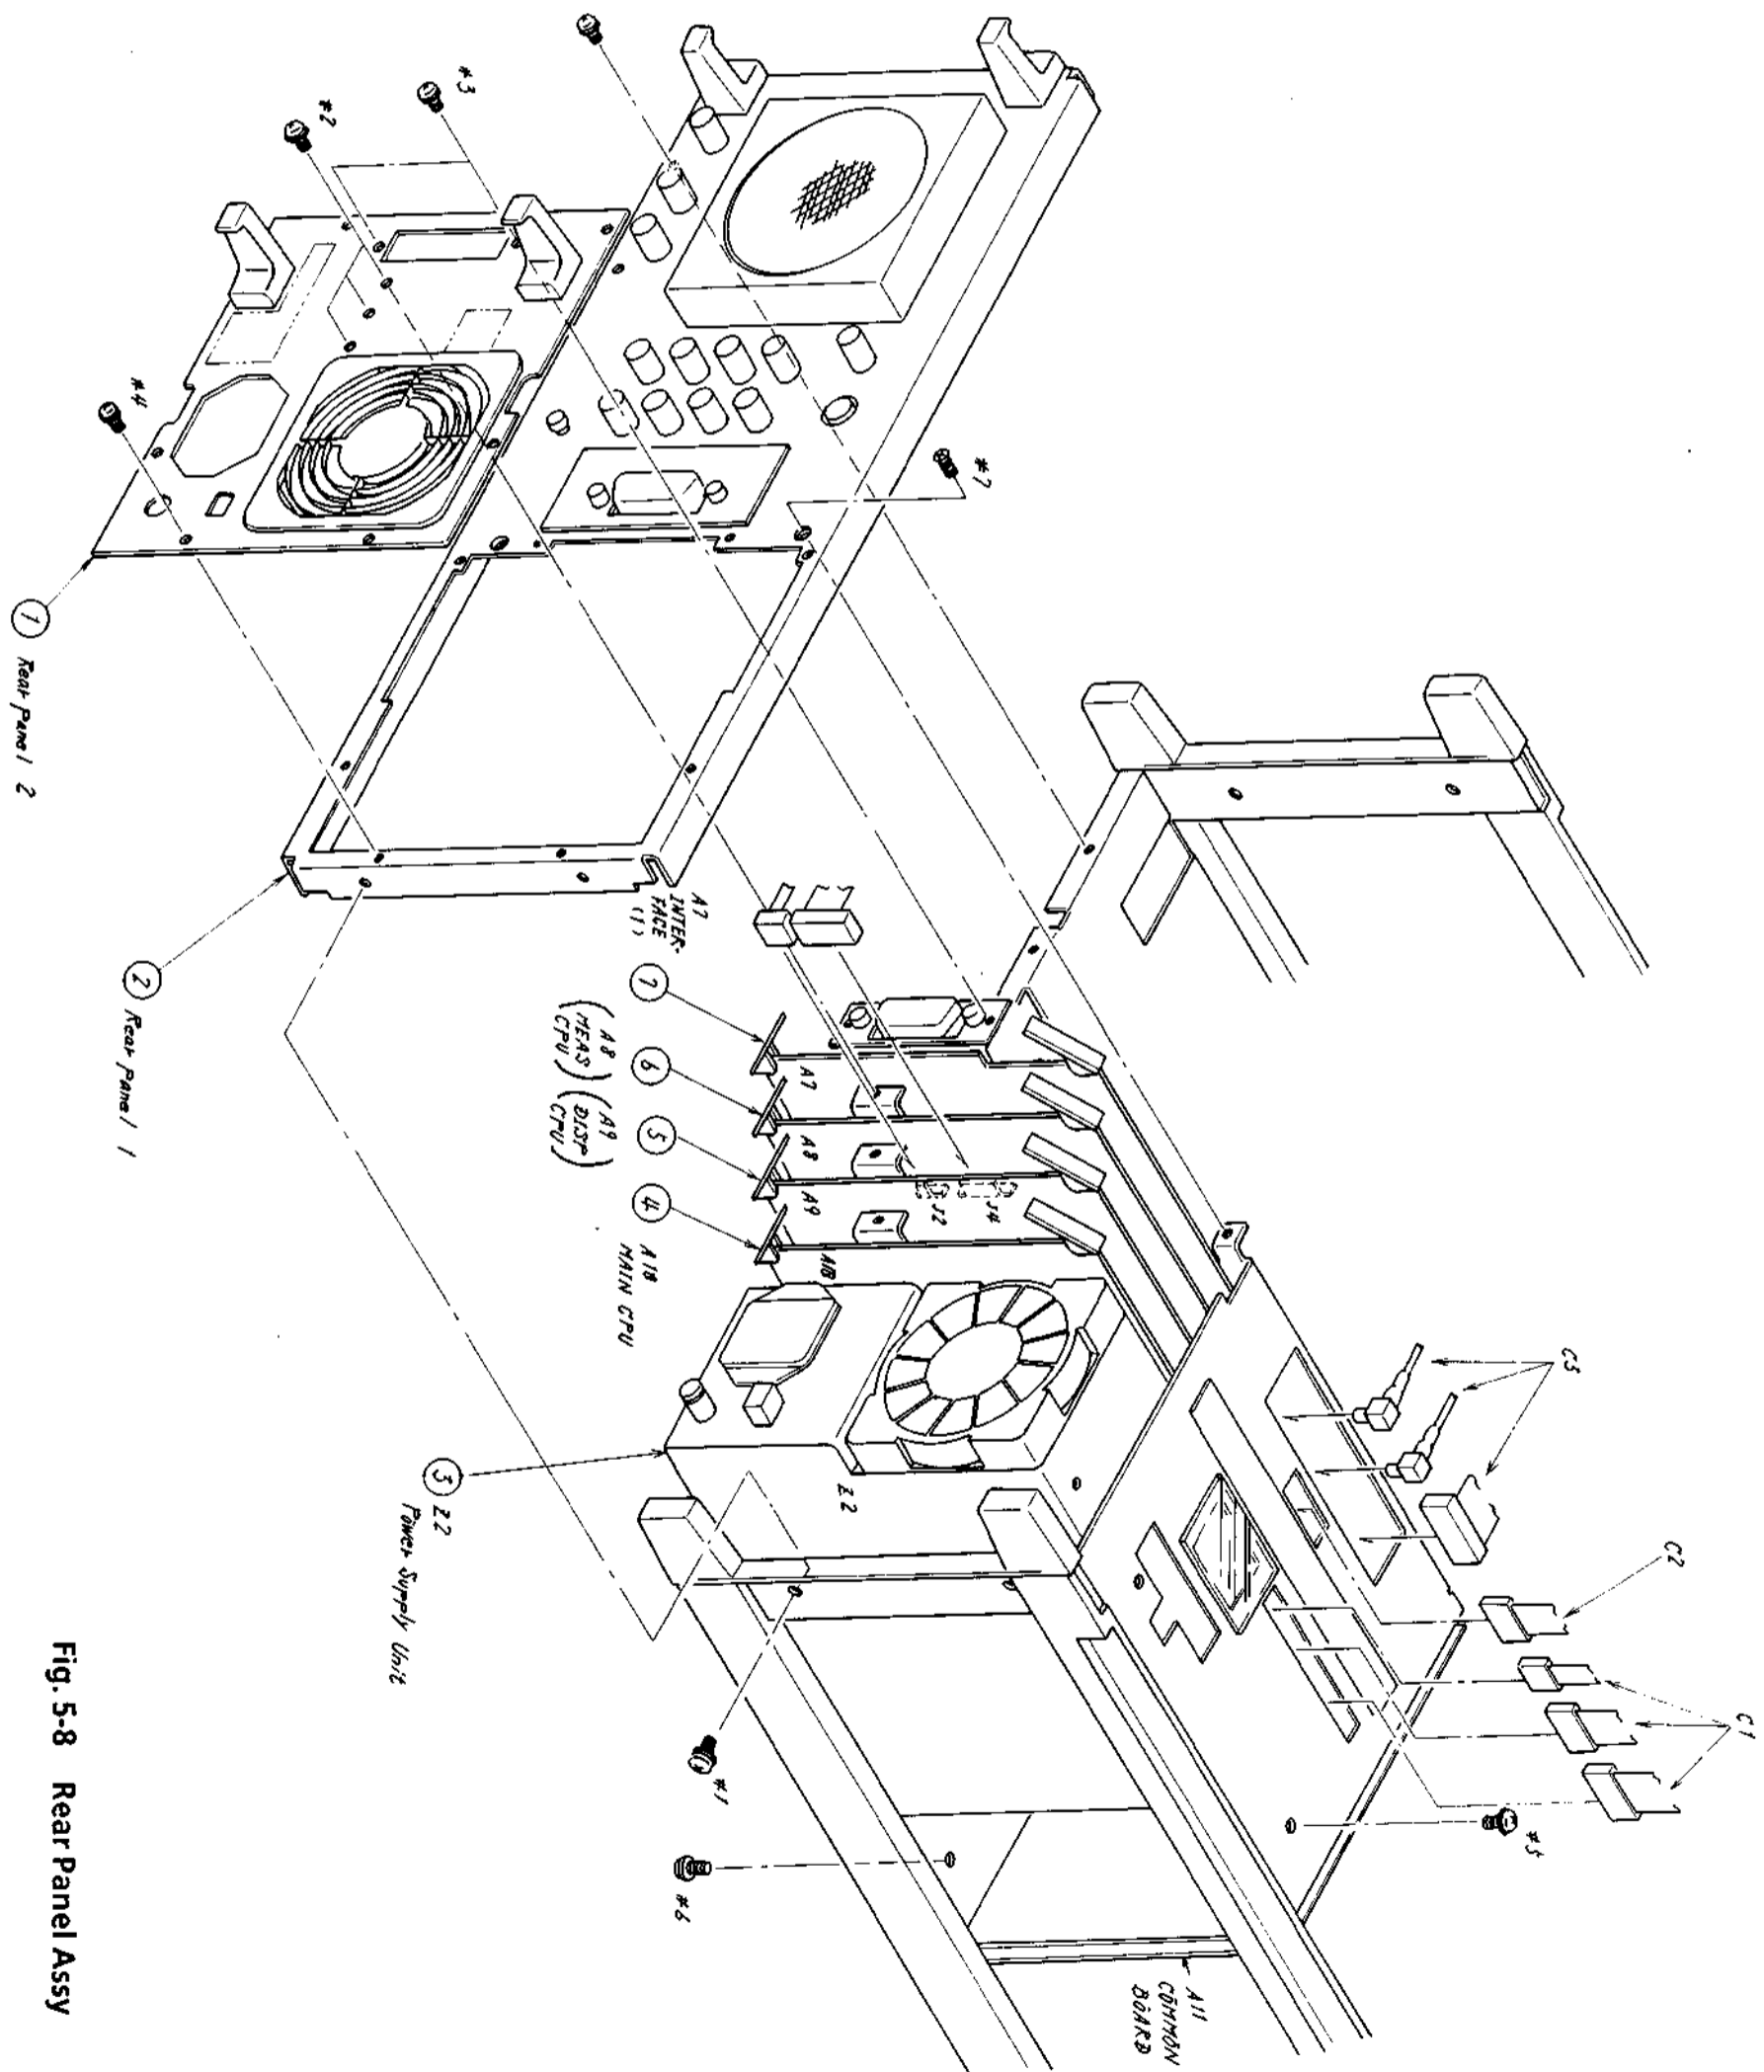

Fig. 5-8 Rear Panel Assy
5.5 Rear Panel Removal (Fig. 5-8)